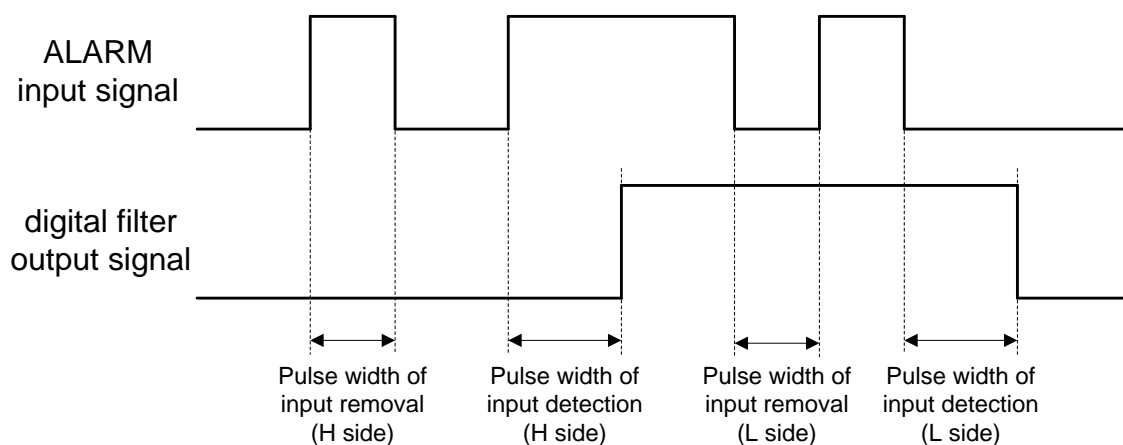

Fig.6-b Pulse width of input removal (with filter) and pulse width of input detection (with filter)
*The pulse width of the input detection (Twmin) means the pulse width which passes through a digital filter and appears to an output. The pulse width of the input removal (Twmax) means the pulse width which is removed by the digital filter (Fig.6-b).